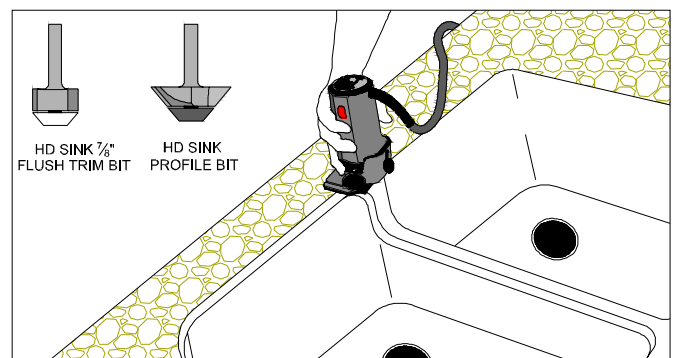

Figure 17D
- Use a laminate trim router with the HD bottom bearing flush trim bit and flush trim the overhanging laminate. (FIG. 17D)
- Use a laminate trim router with the HD sink profile bit, profile the edge of the laminate with the angle of the sink. (FIG. 17D)